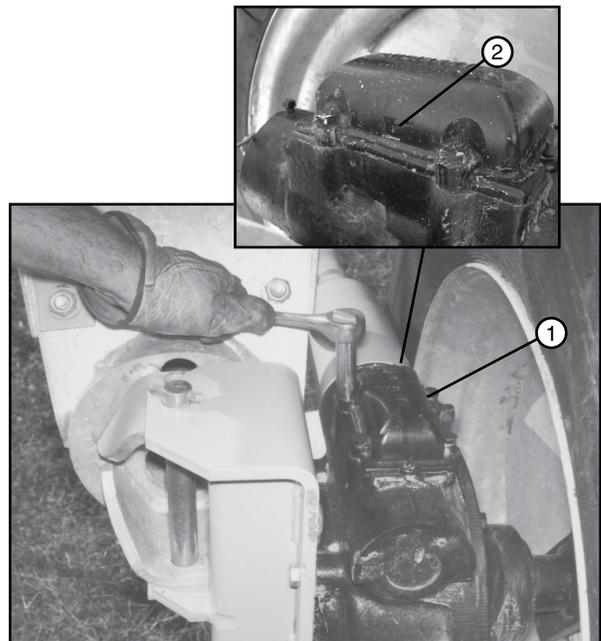

Figure 89-2 1. Expansion Chamber Cap
5. Clean all of the dirt away from the expansion chamber cap and remove the expansion chamber cap. Do not allow dirt to fall into the gearbox when removing the cap. See Figure 89-2.